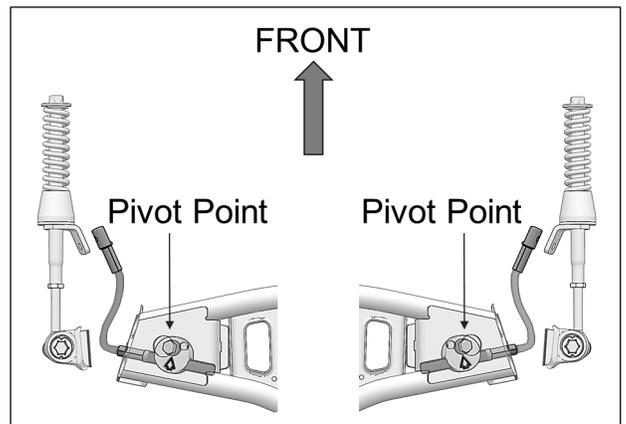

Fig. 25
15. Make sure aluminum disk pivot point is installed in front of steering limiter cable. See Fig. 25